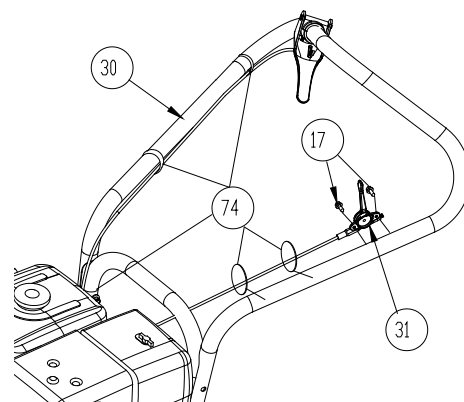

Fig. 2
2. The throttle control will be attached to the throttle arm on the engine and wrapped around the engine for shipping. Unwrap and secure throttle control (item #31) to upper handle with screws (item #17). Screws will already be mounted in handle. Simply remove and use to mount the throttle control securing the cable with two Ty-wraps. The Aim-and-Shoot™ is not attached, you will need to unroll the cable and attach the ball end to the lever and seat the cable end into the hole on the saddle clamp, with the cable running through the slot. To keep the cable from being damaged use three ty-wraps (item 74) to secure it to the handle as shown making sure that the cable is not rubbing against the tire. Note: the cable should be seated properly in the saddle and should follow the contours of the handle. (See Fig. 2)